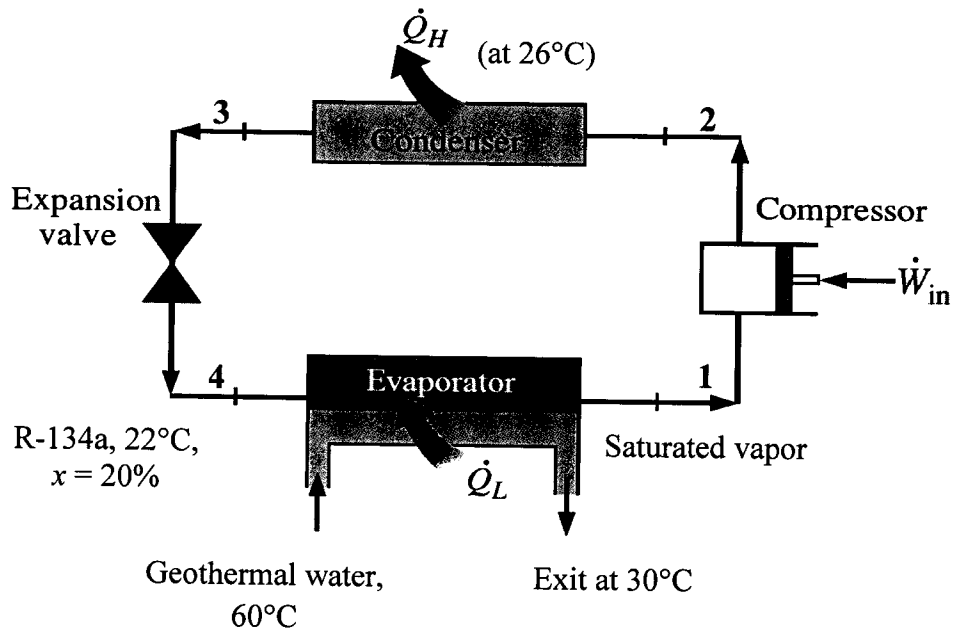

FIGURE Q5
- Q5 A heat pump as shown in **FIGURE Q5** with refrigerant-134a as the working fluid is used to keep a space at 26°C by absorbing heat from geothermal water that enters the evaporator at 60°C at a rate of 0.05 kg/s and leaves at 30°C . Refrigerant enters the evaporator at 22°C with a quality of 20 percent and leaves at the same pressure as saturated vapor. If the compressor consumes 1.5 kW of power, and the phase of geothermal water at the inlet and outlet of evaporator is saturated liquid, determine: